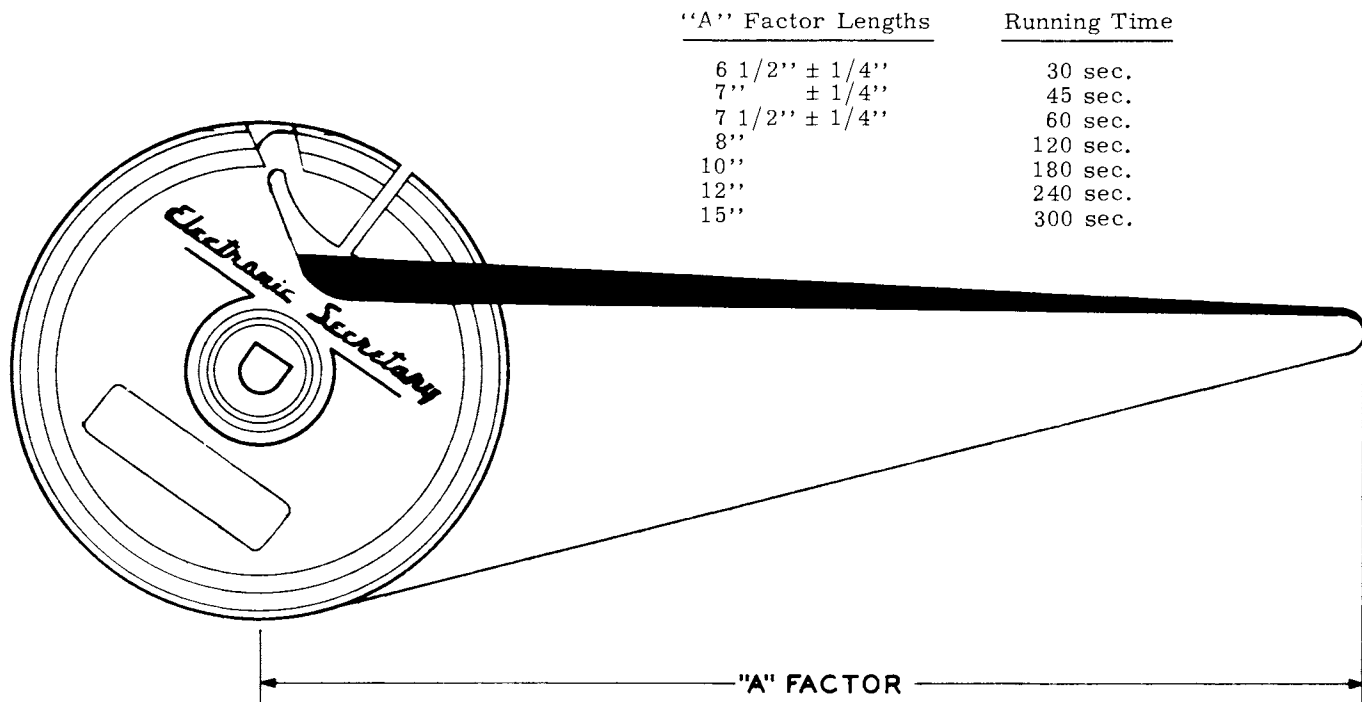

Figure 6. "A" factor table.
4.04 When in the mechanism, the tape should move freely around the pillars and heads. Assure that the tape does not bind in the cartridge and that there is sufficient tape slack ("A" factor) consistent with the running time. (See figure 6.)